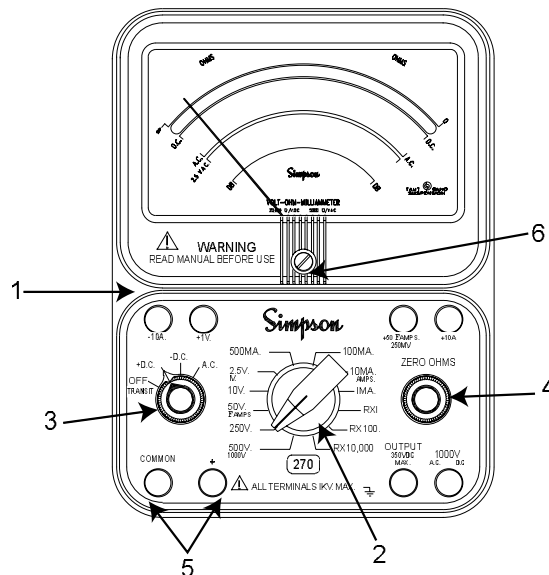

Figure 3-1. Controls, Indicators and Connector
The front panel controls, jacks and indicators are described in Table 3-1 and illustrated in Figure 3-1.
5. **Circuit Jacks:** There are eight jacks on the front panel marked with the functions they represent (Fig. 3-1). These jacks provide electrical connections to the test leads. The COMMON (-) jack is used (in conjunction with black test lead) as the reference point for measurement of all the functions with the exception of the 10A range. (Refer to Section 5, Operator Servicing.)